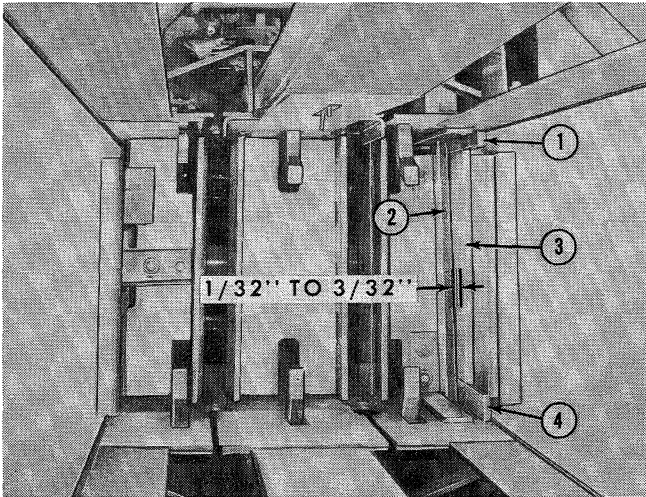

Figure 37
To provide a clean cut, reduce power requirements, and prevent undue strain on the baler plunger, maintain a $1/32''$ to $3/32''$ clearance between the plunger knife (2), Figure 37, and the stationary knife (3). Both knives should be periodically checked for sharpness. If necessary, they should be removed and sharpened, maintaining their original bevel as near as possible.
The edges of the upper and lower knife guides (1) and (4), Figure 37, should extend beyond the stationary knife (3), approximately $1/32''$ to $3/64''$. Less clearance may result in clashing of the stationary and plunger knives. As the knife guides become worn, the knife clearance will decrease, and the plunger may develop side play. When this happens, remove the knife (3), and upper and lower guides, (1) and (4), and shim as required to obtain the $1/32''$ to $3/32''$ clearance between the plunger knife and stationary knife, being certain the guides are shimmed $1/32''$ to $3/64''$ beyond the stationary knife. If the knife guides become excessively worn, it may be necessary to replace the stationary knife and upper and lower guides.
5. The edges of the upper and lower knife guides, (1) and (4), Figure 37, should extend beyond the stationary knife (3) by approximately 1/32" to 3/64". If the knife guides are excessively worn, it may be necessary to replace the stationary knife and upper and lower guides. If replacement is necessary, shim the upper and lower knife guides (1) and (4), so that they extend 1/32" to 3/64" beyond the knife.